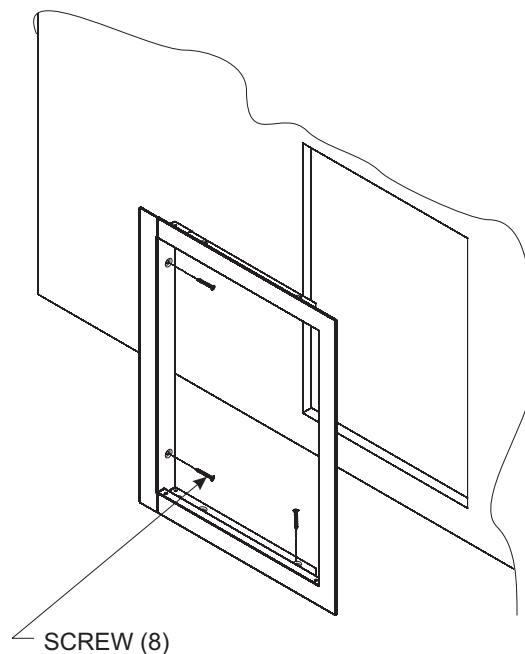

Figure 3
3. Place the Frame into the opening and check for proper hole alignment. Secure the Frame to the grill enclosure with eight 8 x 3/4" Hex Head Screw screws. See Figure 3.